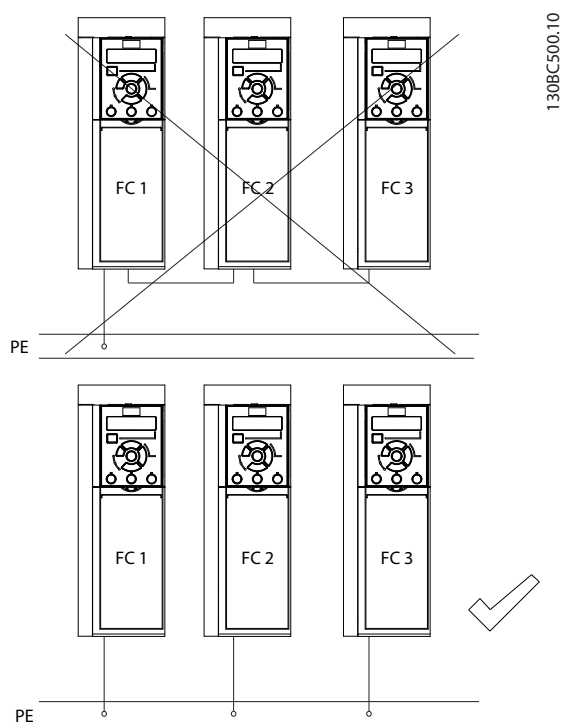

Figure 4.1 Grounding Principle
- Do not ground 1 frequency converter to another in a daisy-chain fashion (see *Figure 4.1*).